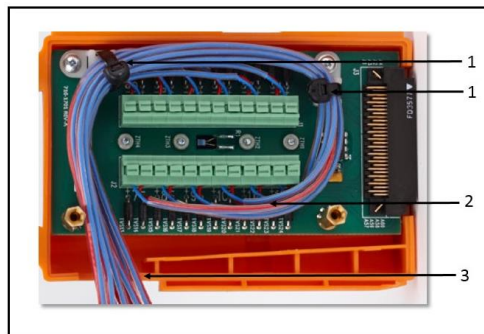

Figure 9: SIM Wiring
6. Once all sensors are connected, route the wire harness around the connectors and out the drain hole. Secure the harness with the tie wraps provided. Follow Figure 9 below to maintain the thermal accuracy of the module.